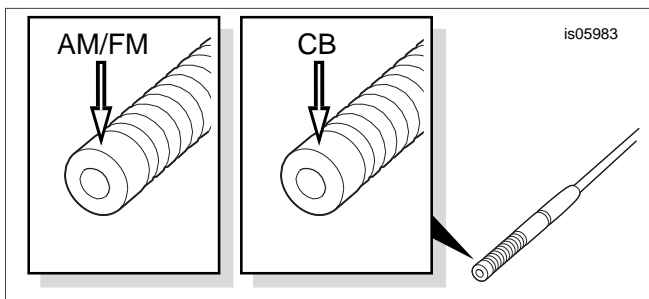

Figure 1. Antenna Mast Identification
The CB antenna mast (C) and the AM/FM antenna mast are similar in appearance, but not interchangeable. See Figure 1 to avoid mixup on later installation.
The CB antenna mast and the AM/FM antenna mast are similar in appearance. See Figure 1.